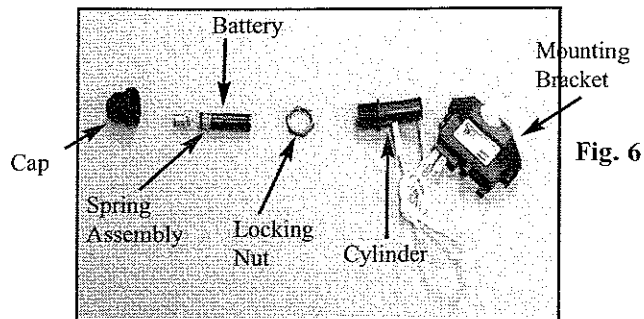

Fig. 6
1. Remove the ignitor cap, spring assembly, battery and lock nut from ignitor. (See Fig. 6)